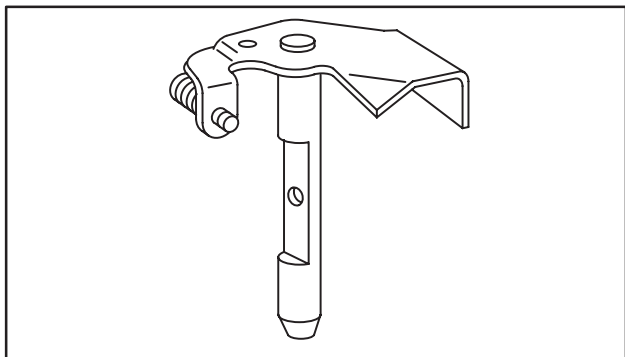

Fig. 177 – THROTTLE SHAFT AND LEVER, TYPICAL
1. Throttle shaft, Fig. 177, is removed by using a Phillips or standard screwdriver to remove throttle plate screw.